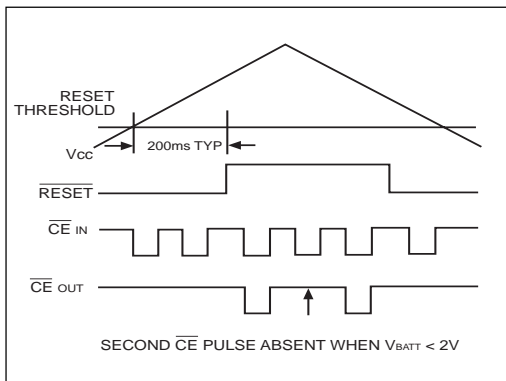

Figure 11. Backup-Battery Monitor Timing Diagram
The **SP791** low-battery voltage function monitors  $V_{BATT}$ . Low-battery detection of  $2.0V \pm 0.15V$  is monitored only during the reset-timeout period (200ms) that occurs either after a normal power-up sequence or after the  $\overline{MR}$  reset input has been returned to its high state. If the battery voltage is below 2.0V, the second CE pulse is inhibited after reset timeout. If the battery voltage is above 2.0V, all CE pulses are allowed through the CE gate after the reset timeout period. To use this function, after the 200ms reset delay, write 00 (HEX) to a location using the first CE pulse, and write FF (HEX) to the same location using the second CE pulse following  $\overline{RESET}$  going inactive on power-up. The contents of the memory then indicates a good battery (FF) or a low battery (00), Figure 11.